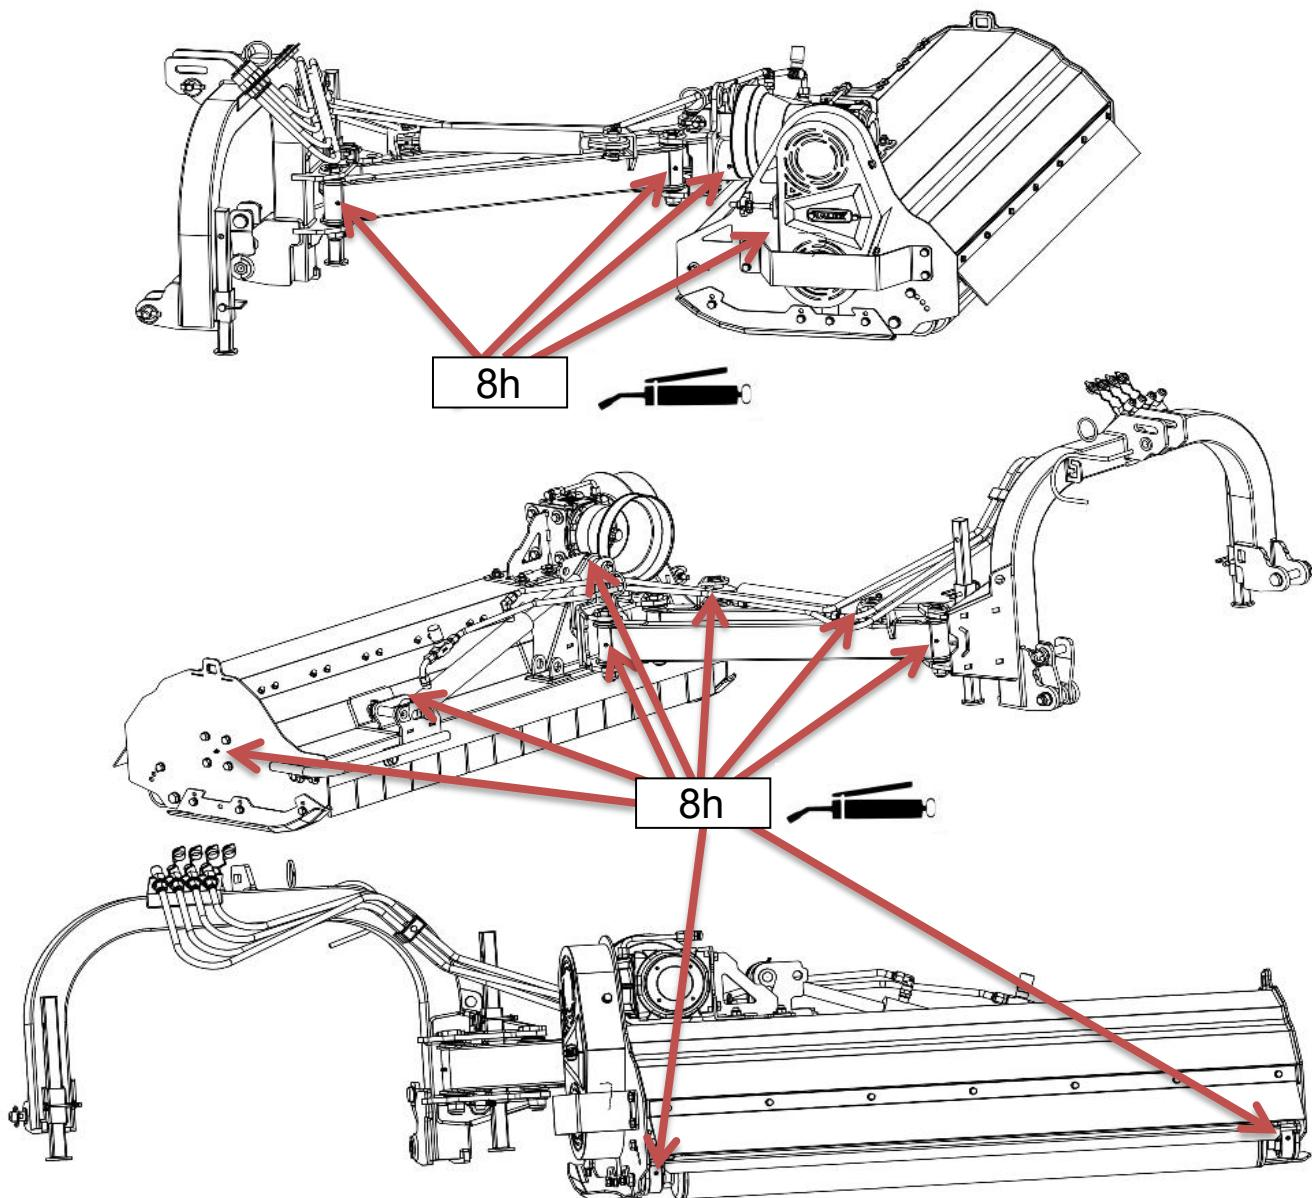

Figure 14. Lubrication diagram
All points indicated in Figure 14, equipped with ball type grease fittings, should be filled with solid grease ŁT43 using of a lubricating gun. Lubricate the jointed-telescopic shaft after removing it from the machine. Lubricate the telescopic part of the shaft at least after 8 hours of operation – when the shaft is entirely moved apart and impurities have already been cleaned. Details of PTO shaft operation are contained in a separate manual supplied with it.
The figure 14 presents the location and recommended operating time after which the indicated components should be lubricated.
- lubricate the machine according to the lubrication diagram (Fig. 14),